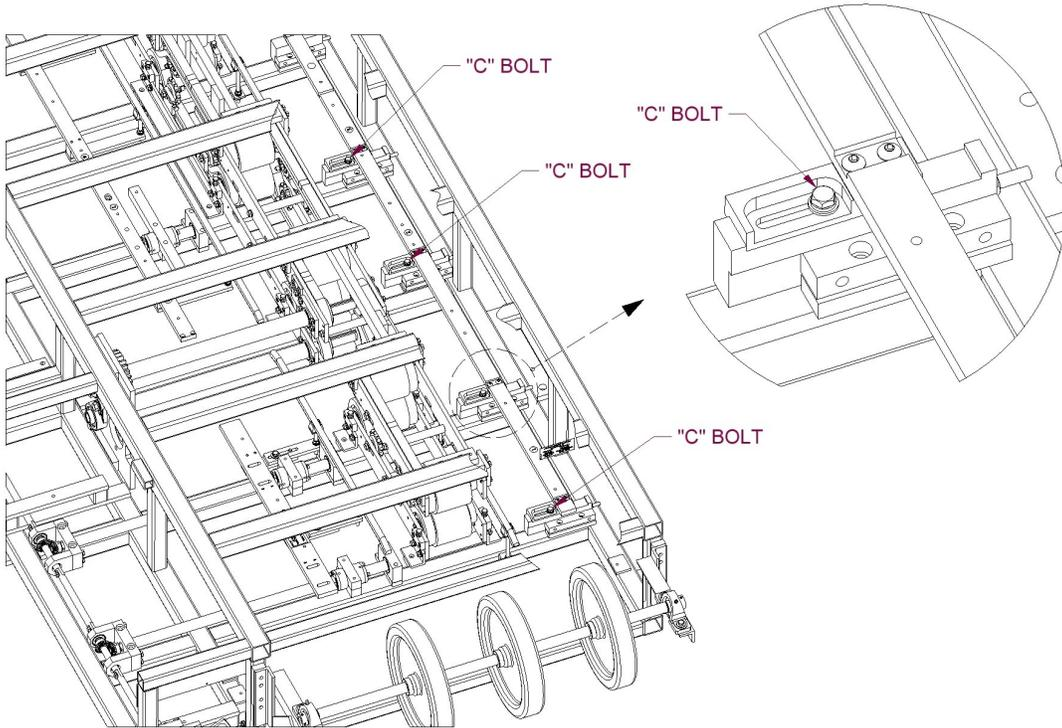
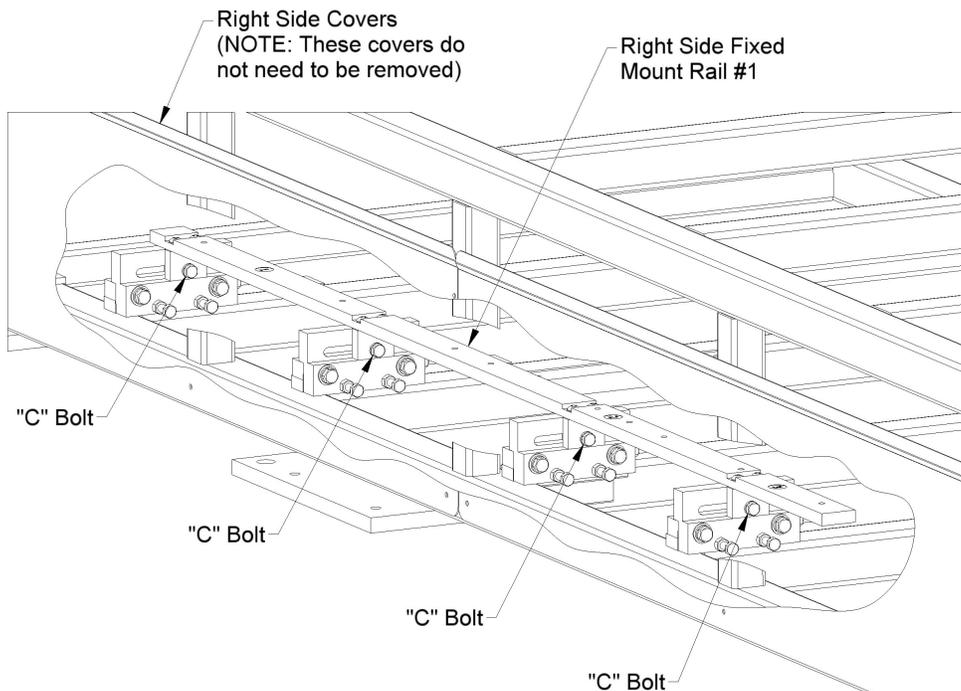

Figure 44: April 2009 and later
Figure 45: Machines made before April 2009
4. Loosen bolt "C" on the first 4 Slide Block assemblies (Figure 44 or Figure 45).
5. Once all 4 bolts are loose, slide the Right Side Fixed Mount Rail #1 to the correct position (Figure 46), either “inboard” or “outboard”. Make sure that it is fully in position and then tighten the “C” bolts (Figure 44 or Figure 45).